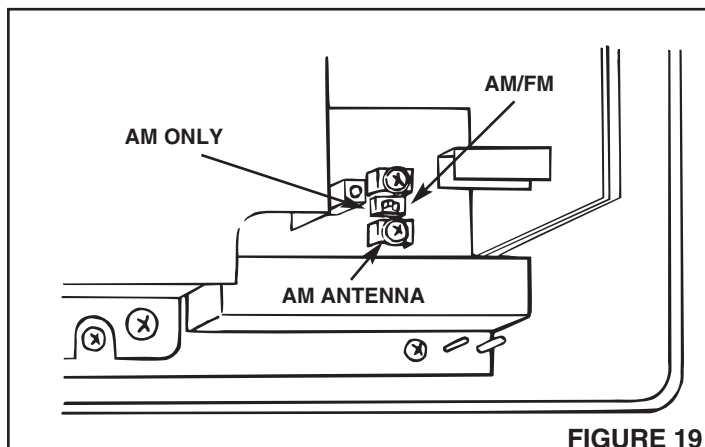

FIGURE 19
1. Refer to Figure 19. Move the auxiliary antenna selector switch to the AM position.